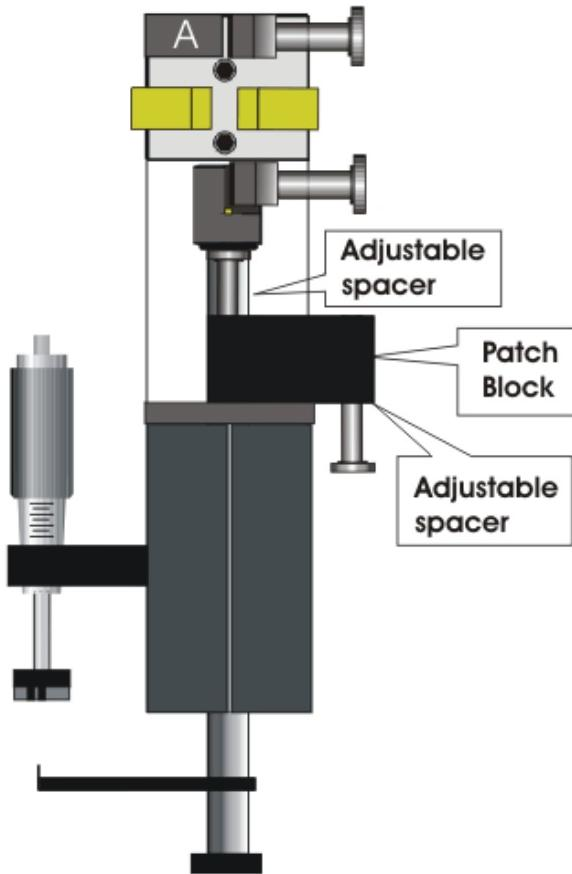

Figure 1-3. Patch block placement.
| Figure 1-3. Patch block placement. | 7 |
1.5.3 Patch Block (Figure 1-3)
Set the HEAT switch to HEAT 1 and load capillary. Place the Patch Block so that it sits on the top of the bearing block and behind the slide bar as show in Figure 1-3. The head of the screw will act to stop the slide mechanism by hitting the underside of the lower slide. The length of the first pull is determined by the space between the top of the Patch Block screw and the bottom of the lower glass clamp assembly. Press PULL, wait until the slide drops onto the screw, and then press RESET. Remove Patch Block.